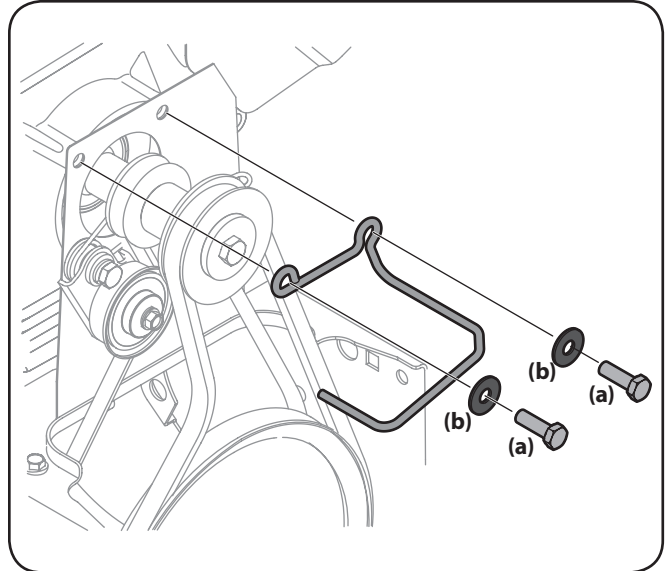

Figure 7-2
3. Loosen and remove the two bolts (a) and flat washers (b) securing the belt guide. See Figure 7-2. Remove belt guide.